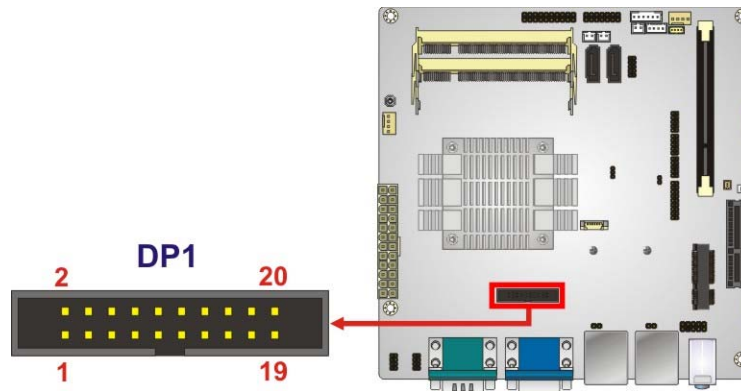

Figure 3-7: DisplayPort Connector Location
- CN Location:** See **Figure 3-7**